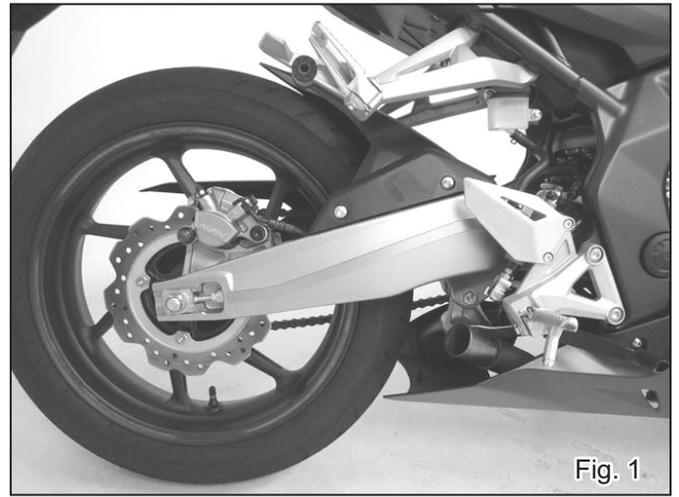

Fig. 1
- 2) According to HONDA service manual, remove stock silencer assembly from vehicle (See Fig. 1).